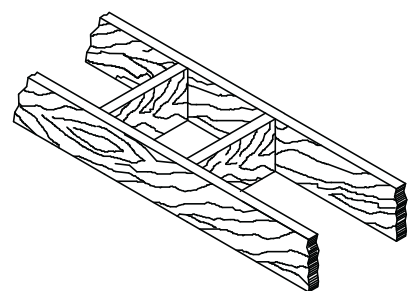

Figure 23
1. Cut and frame the holes in the ceiling, floor and roof where the chimney will pass (see **Figure 23**). Use a plumb-bob to line up the center of the holes. The sizes are indicated in **Table 1** for the wall and ceiling holes and **Table 2** (Page 20) for the roof holes.